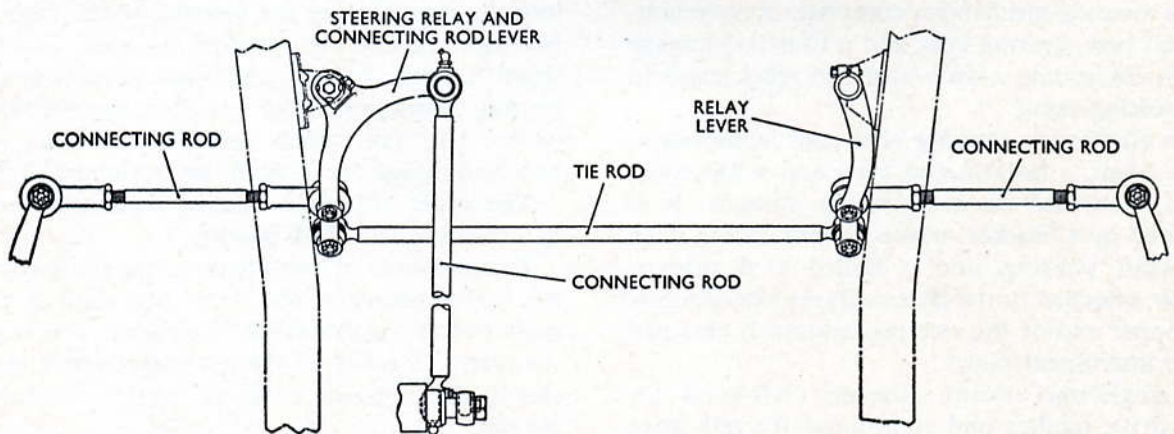

Fig. M.2. Steering linkage arrangement—right drive shown
long and two short connecting rods, and two relay levers (Fig. M.2). The non-adjustable tie rod is attached between the two relay levers which also carry the inner ends of the two short adjustable connecting rods, the outer ends being attached to the steering arms. The long connecting rod which also is not adjustable is attached to the relay lever on the drivers side and the steering drop arm. All rods are fitted with spring-loaded ball and socket joints.
2. Install the short connecting rods so that the right-hand threaded end is to the outside on the right-hand side of the vehicle, and to the inside on the left-hand side (Fig. M.2).